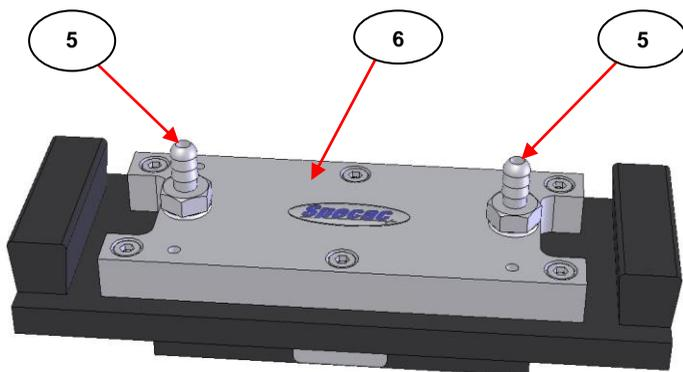

Fig 4. Liquid Connection Ports on Gateway™ ATR Flow Through Top Plate
plate (6). (See Fig 4). It does not matter which of the flow ports (5) is the **inlet** or **outlet** connection for flow. The clear silicone tubing supplied has dimensions of 1/4" O.D. and 1/8" I.D. and is pushed over the barbed hose type connectors on the flow ports (5). Tie wraps can be placed around the tubing at the flow port connections to prevent the tubing from separating under a liquid sample flow.